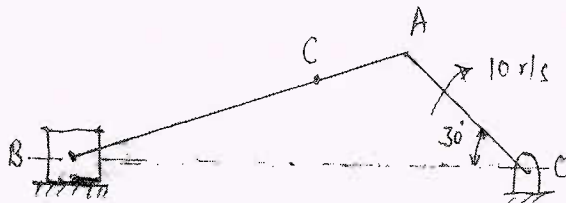

Fig.Q.3
- 3 In the slider crank mechanism shown in Fig.Q.3. the crank rotates at 10r/s , uniformly in clockwise direction. Determine: i) The acceleration of the connecting rod ii) Acceleration of the slider B iii) Acceleration of a point C on connecting rod. The lengths of various links are $OA = AC = 200\text{mm}$ $AB = 600\text{mm}$ $\angle AOB = 30^\circ$ solve by relative method. (16 Marks)